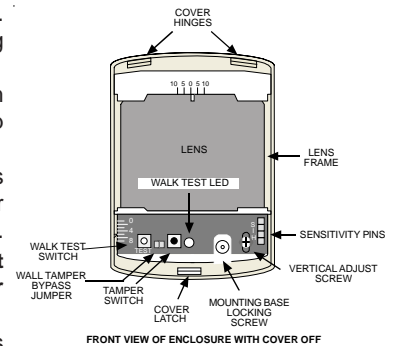

Figure 3
- Remove the sensor's cover and press the Walk Test Switch. Refer to Figure 3 for the switch location.